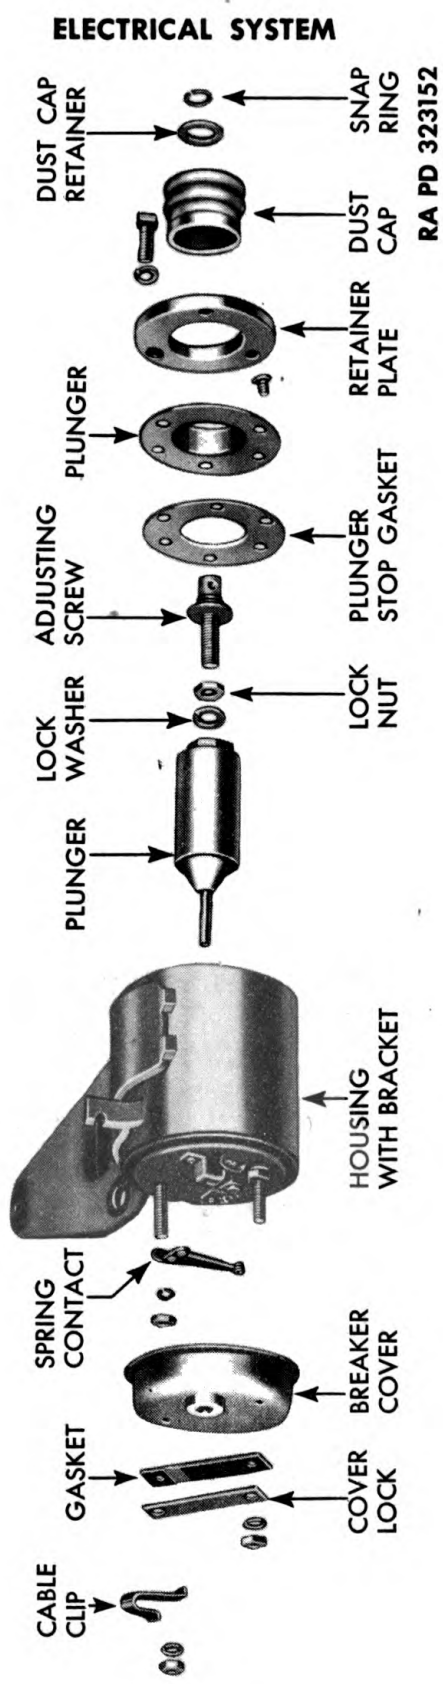

Figure 153 — Solenoid Disassembled
57. DISASSEMBLY. (fig. 153).
60. ASSEMBLY (fig. 153).